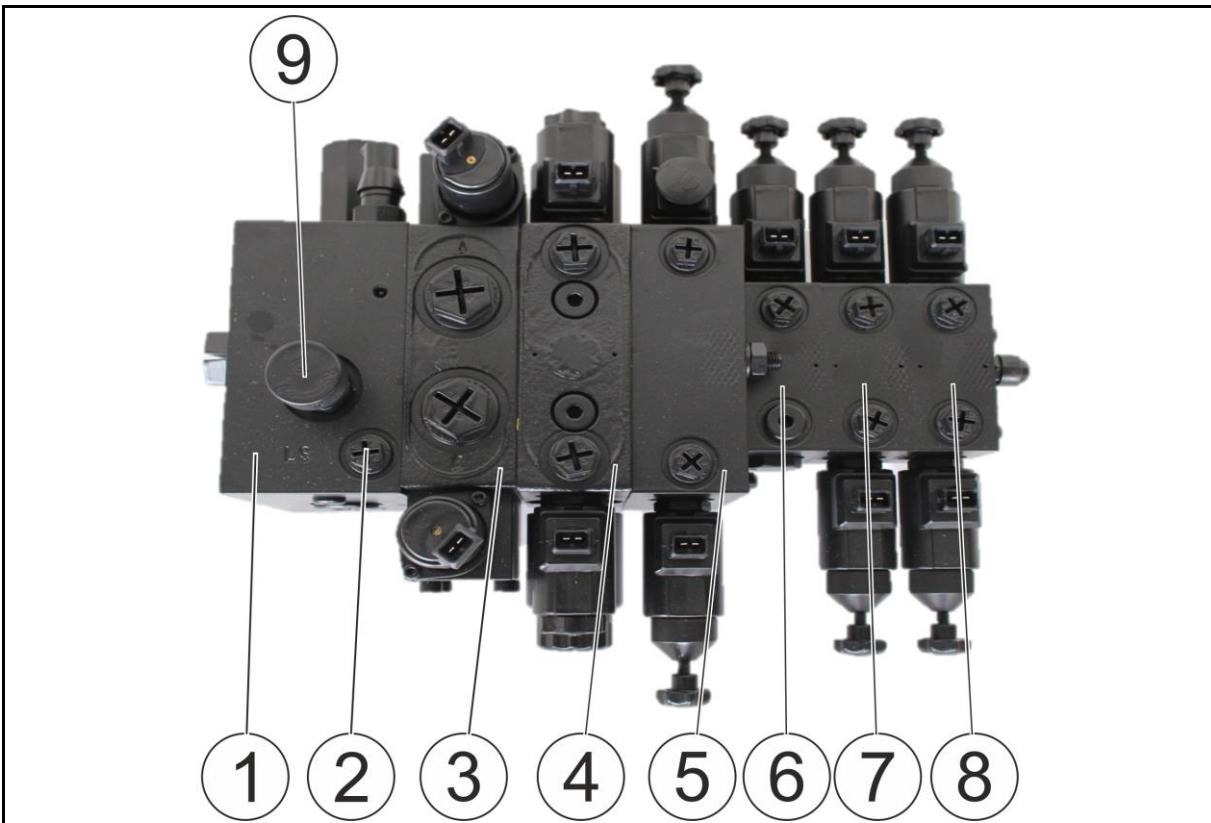

Fig. 35
1. Screw the load-sensing control line (2) into the connecting aperture (Fig. 35/9) of the electro-hydraulic control block.
- 2.1 screw the load-sensing screw (Fig. 35/10) in as far as it will go.
3. Connect the load-sensing control line (2) to the load-sensing connector of the tractor.
4. Connect the hydraulic connector "Return line" (4) to a free return port of the tractor.
5. Connect the hydraulic connector "Flow line" (5) directly to the hydraulic pump of the tractor.